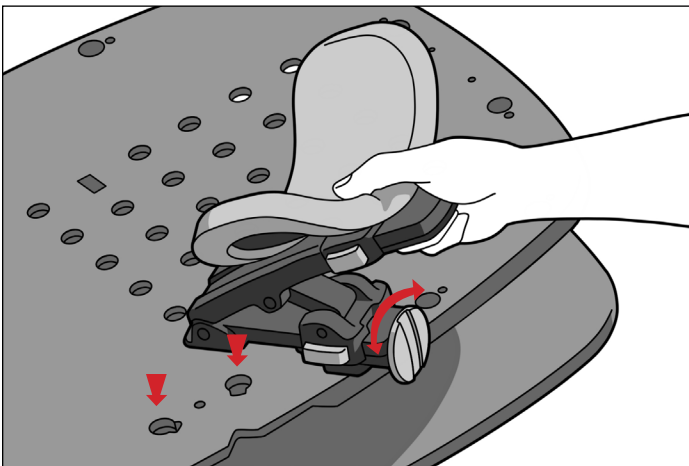

FIG. 11
1. To attach the Arm Support loosen the knob and insert into one of the two locations (marked with “X” and “Y”). Tighten knob to lock Arm Support onto the Patient Surface. (Fig. 11)